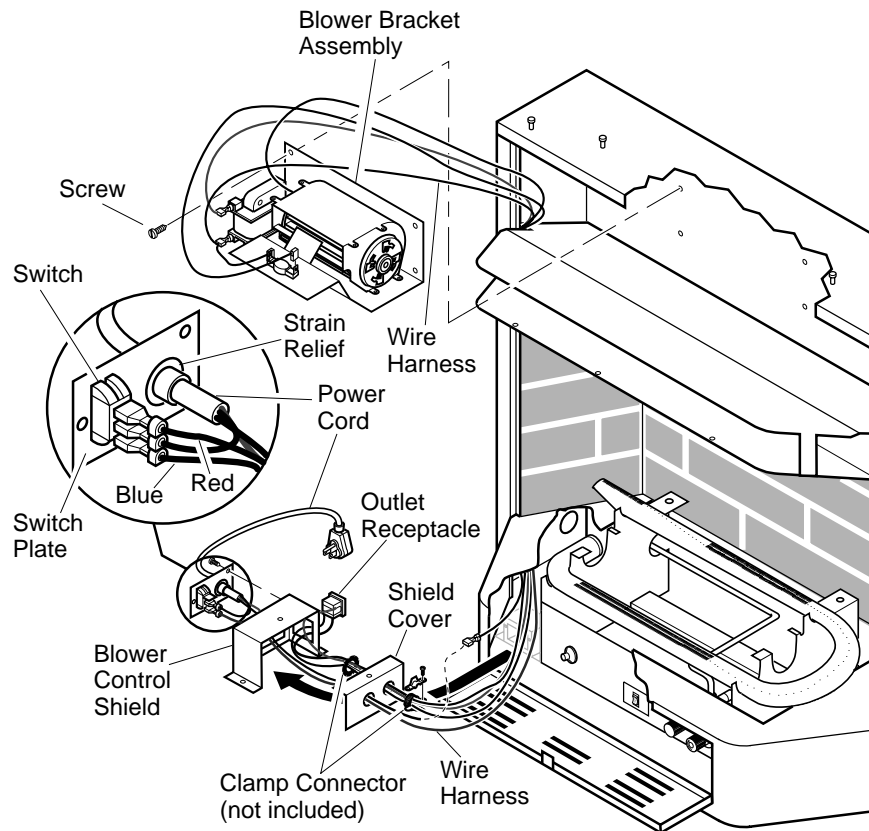

**Figure 17 - Installing Switch Plate to Blower Control Shield**
- Install the switch plate on the blower control shield with 2 - #10 screws provided (see Figure 17, page 11). Route power cord out of the cabinet by inserting it through the bushing on the outer casing (see Figure 16). Plug fan kit into 120-Volt grounded power supply and test operation. *Note:* When switch is in the AUTO position, the fan will start after the heater has run for a few moments. The fan will continue to run for several moments after the heater has been turned off. When switch is in the ON position, the fan will run until turned to OFF. Reinstall hood assembly and close lower louver door.